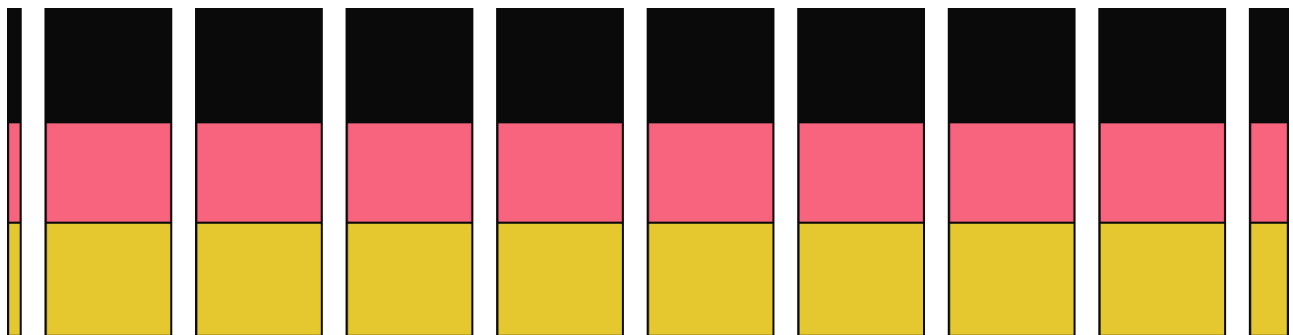

Figure 15
15. Trim approximately 1/4" off of the end of the constructed strip to ensure the end of the component is even. To ensure the cut is perpendicular to the seams, align a marked line on the ruler to one of the sewn seams before cutting. Starting at the trimmed end of the strip, cut eight components 2-1/2" wide. (Figure 15)